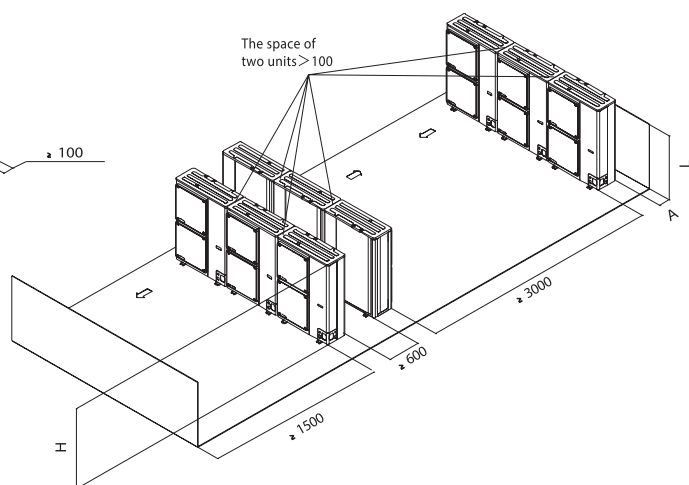

Figure 22
- Multi-lined group installation (more than two units a group)(see Figure 22)